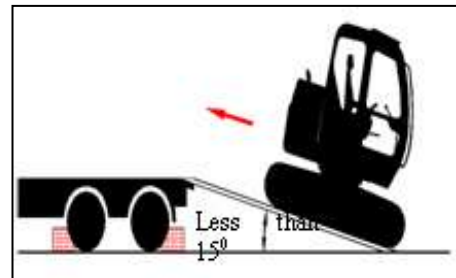

Figure 4.1.4
(1) The direction of excavator is as follows:
- With foreside attachment: the machine moves forward with the working device ahead. (As figure 4.1.4)